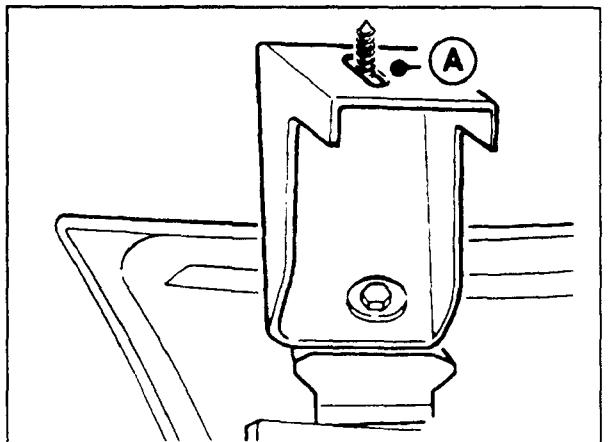

Figure 3
4. Loosen bolt (A, Figure 3) on side of bumper.